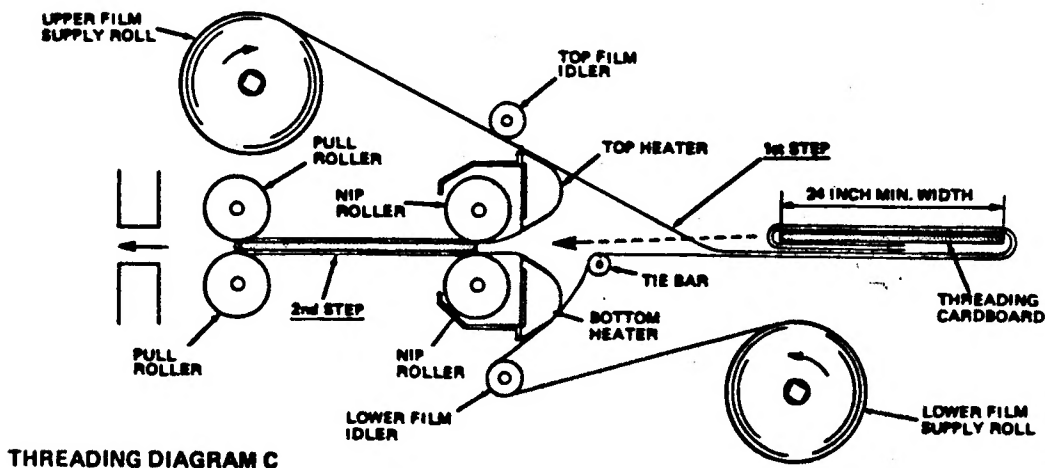

Figure 4.1.5 4-8
- 16) With a piece of cardboard at least 24" (61 cm) long, make 1-1/2 folds in the film as shown in figure 4.1.5. Push the cardboard between the two nip rollers. Move both front and rear roller release levers to "CLOSED" position. Run the motor at a slow speed (refer to section 4.6 "Laminator Start-up Procedure") and allow the motor to pull the cardboard and film completely through the laminator. Stop the laminator when film is threaded.